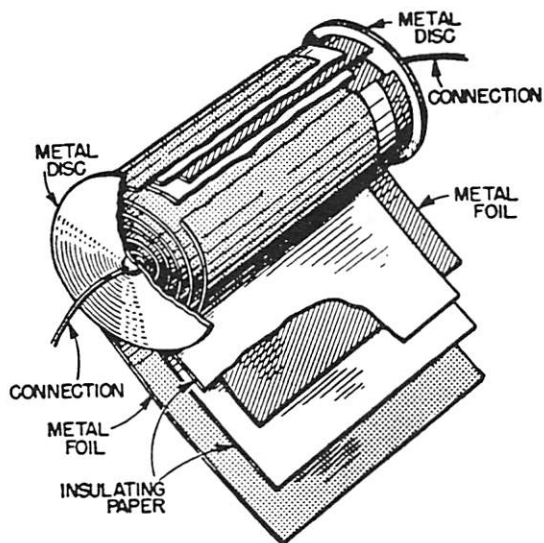

FIGURE 7
2. **Condenser.** The condenser is a storage reservoir for electricity. It consists basically of strips of foil with paper insulation between them, wound together in a roll and inserted into a metal case for protection and easy assembly. (See Figure 7.) The strips of foil and insulation are wound together so that one of the strips of foil can be grounded and the other strip of foil can be connected to the live breaker point. At the instant of breaker point opening, the insulating paper between the 2 strips